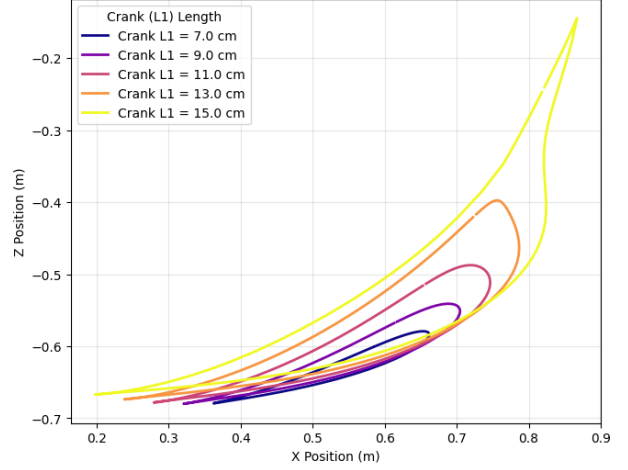

Figure 5: Effect of Crank Length (L1) variation.
- **Crank Length (L1):** Varying the crank radius from 7.0 cm to 15.0 cm (Figure 5) scales the overall amplitude. A larger crank radius expands the trajectory globally, increasing both horizontal stride length and vertical step height proportionally.